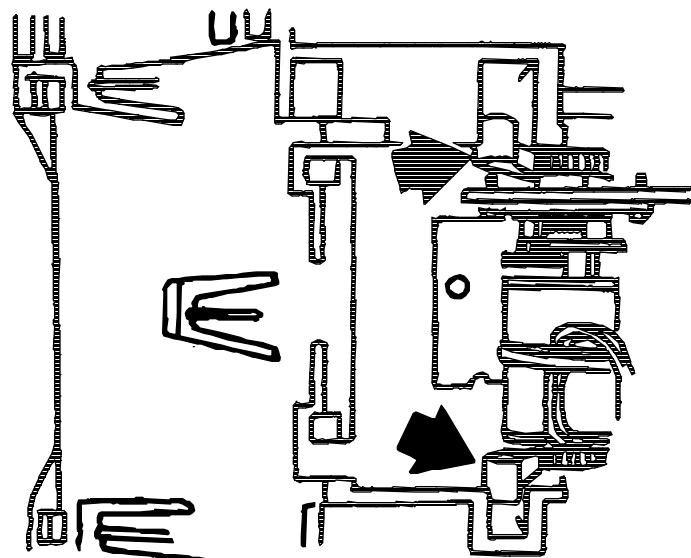

Figure 4-23 Rotating Cam Pivots Into Position
- 16.2 If Motor Drive is present, rotate gears manually (see 15.1) until campiv ots arein position shown (out of the Carrier channels). (Fig. 4-23)